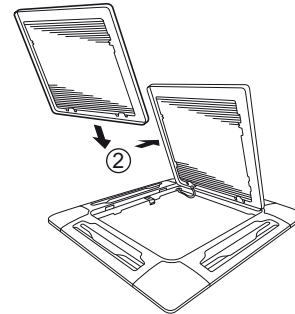

Fig. 7-5
- c) With the air-intake grille opened, remove the grille hinge from the ceiling panel by sliding it in the direction shown by the arrow ②. (Fig. 7-5)